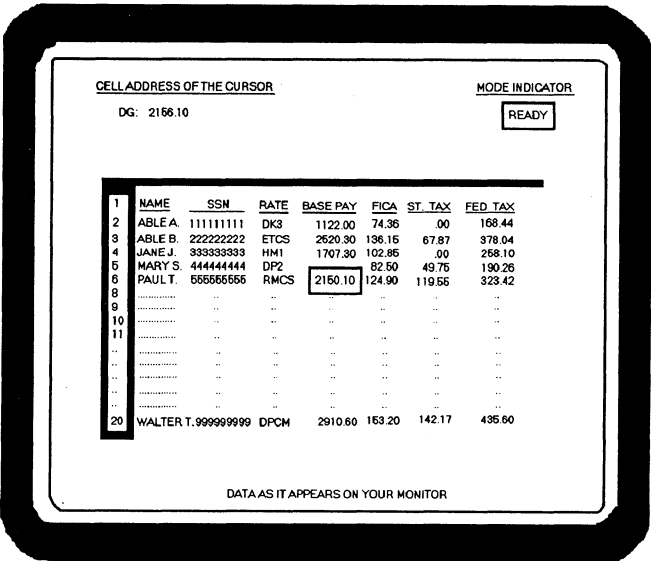

Figure 3-3.—Example of a spreadsheet/worksheet.
Simply defined, a spreadsheet electronically duplicates an accountant's or bookkeeper's tools, which normally consist of a ledger pad, a pencil (with an eraser), and a calculator. When using spreadsheet software, you enter and change data (figures of various types) by typing on a keyboard rather than writing with a pencil. You are able to view your figures on the computer's monitor rather than having to read a ledger pad. The data is presented as it would appear on paper, in rows and columns. Figure 3-3 is an example. Many everyday tasks can be managed with spreadsheet software. The computer can perform a variety of mathematical calculations—from simple addition, subtraction, multiplication, and division to trigonometry, and statistical and business calculations.
- **Data cell**— A data cell contains one piece of information associated with a particular record. Thus, a record/row that contains seven pieces of information will have—you guessed it—seven data cells. A data cell is symbolically identified by using some type of common notation—usually column, row. Therefore, if you have a spreadsheet with 20 records, each with 7 columns of information, the rows will be numbered from 1 through 20, and the 7 columns will be identified by the letters A through G. In this way, the fourth column, sixth row of the spreadsheet will be data cell D6, which, in figure 3-3, contains the value 2156.10.
In looking at figure 3-3, you will notice each individual has only one record, and each record/row contains seven columns (or data cells) of information. There could have just as easily been 20, 50, or 75 columns of information per record. The number of data cells is limited only by the parameters of the spreadsheet software and by the amount of available RAM. To give you some idea of a spreadsheet's size, the worksheet you see in figure 3-3 might be only a small portion of the entire worksheet—the amount that can be displayed at one time. Although there appear to be only 20 rows and 7 columns of information, depending upon the software package you are using, it could conceivably contain up to as many as 8,192 rows and 256 columns of information totaling more than 2 million data cells. A spreadsheet of this size would be equivalent to a piece of paper approximately 21 feet wide by 130 feet long. Try spreading that out on a table!